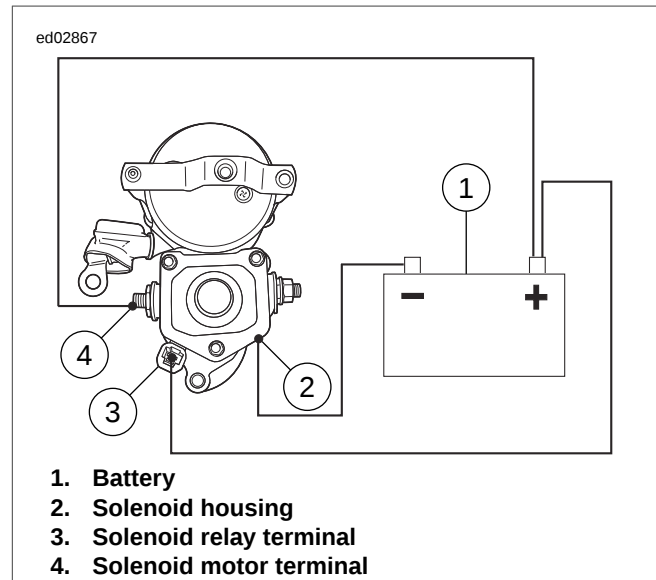

Figure 3-8. Hold-In Test
1. See Figure 3-8. With test leads still connected in the manner specified in the previous 3.5 TESTING STARTER ON BENCH, Solenoid Pull-In Test, disconnect solenoid motor terminal/battery negative test lead at negative battery post only; reconnect loose end of this test lead to positive battery post instead.